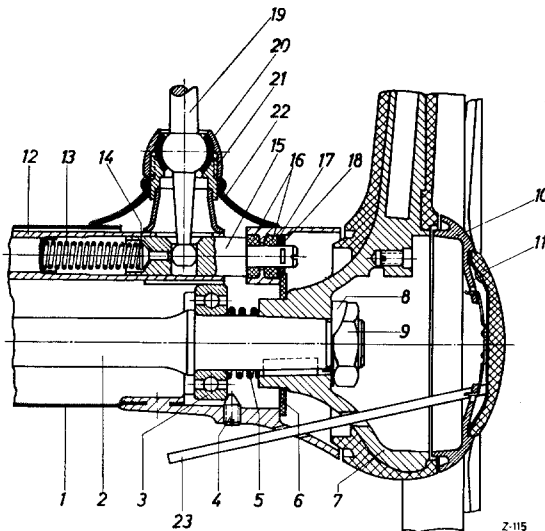

Fig. 26-2/4
In previous models the cylindrical pins (3) of the spring-loaded ball cup connector (1) were insulated by means of Vulkollan bushings. On recent cars these cylindrical pins have been provided with polyamide bushings with a higher wear resistance. These bushings, which should not show any signs of wear, reduce the noise of the pins when they move against the upper and lower ends of the slot. When the gear is engaged the pin should be approximately in the center of the slot (Fig. 26-2/3).